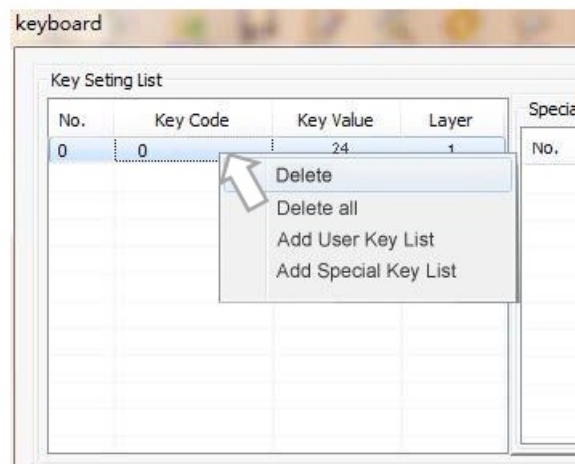

Figure 3.1.4
Step 3. Move your mouse cursor on 0 of Key Code field and right-click your mouse. It will show drop-down menu as Figure 3.1.4 and select “Delete”.